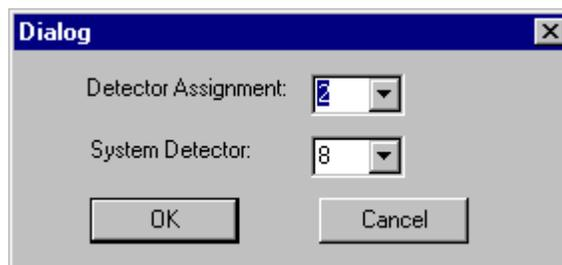

Figure 4.14 – Edit Loop Detector Dialog box
- Double click on the detector or right click on the detector and choose Edit menu option to open Detector Assignment Dialog box as shown in the Figure 4.14.